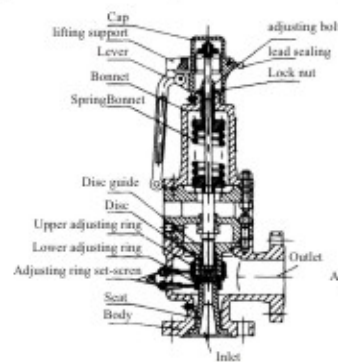
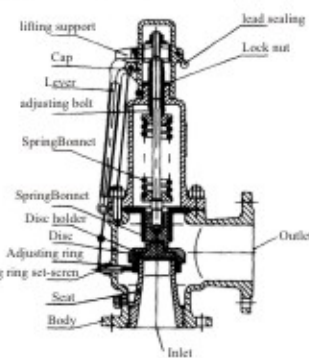

Figure 5
Figure 6
1) For the safety valve which has already adjust opening pressure, if its relieving pressure and re-seating doesn't according the required, than may adjust the adjusting ring position. There are two kinds of structure of safety valve (see Figure 5, Figure 6), one is single adjusting ring, and another is double adjusting ring. The adjustment process is open the lower lead sealing and unscrew the adjusting ring lock bolt, then adjust the adjusting ring gear with tool as thin iron rod. If the safety valve without connection piping in
The Safety valve of our company is tested in the normal temperature according to the standard. It has temperature difference for the safety valve actual working condition and normal temperature set pressure, so result in the difference for set pressure (opening pressure) of constant pressure and working condition. For sake of this, should apply thermal state adjust the safety valve if great difference. It has set pressure (opening pressure) adjusting and discharge re-seating pressure adjusting. Our two kinds of product as a example in the following (Figure 5. figure6).